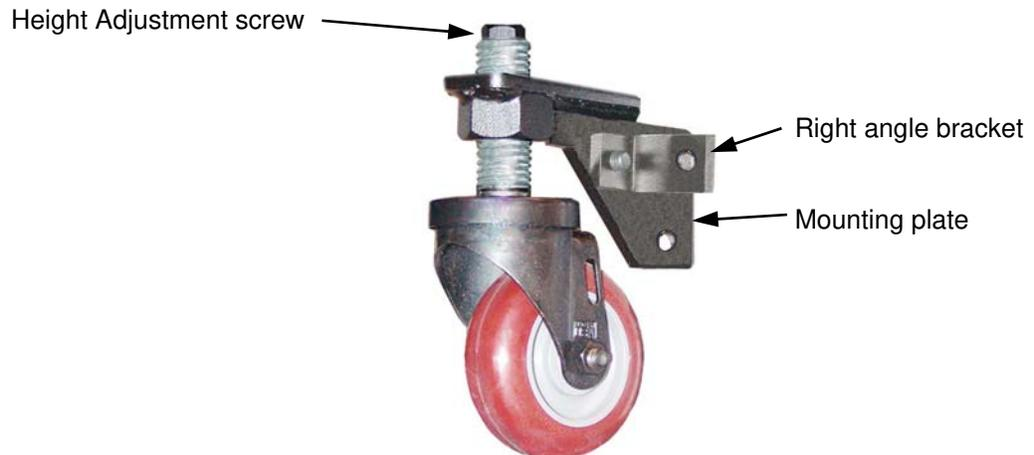

Figure 15 *Lighter System Caster Assembly*
Step 5 Adjust caster **HEIGHT ADJUSTMENT** screw to engage caster with the floor. Reference figure 15 & 16 above.